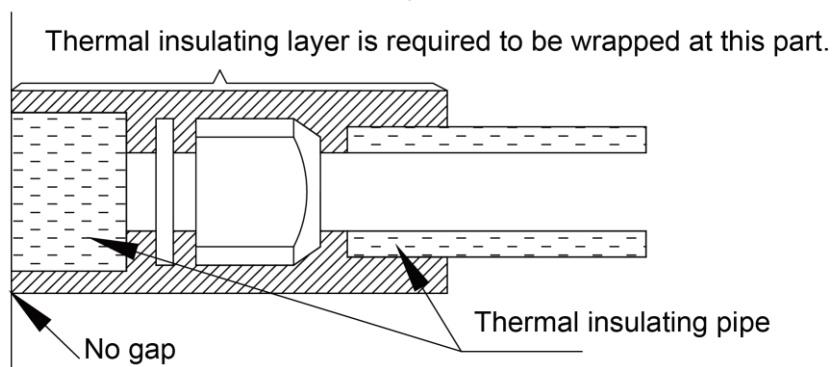

Fig. 20
- 2) Joints of indoor and outdoor unit should be wrapped with insulating material and leave no gap between pipe and wall. See Fig. 20.